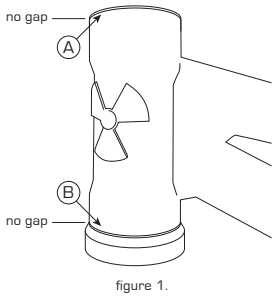

figure 1.
- 4) Using a headset press, carefully press the [A] upper cup into the frame until it is flush with the headtube as shown in figure 1;
- 6) Using a headset press, carefully press the [B] lower cup into the frame until both the [A] upper cup and [B] lower cup are pressed flush with the headtube as shown in figure 1;